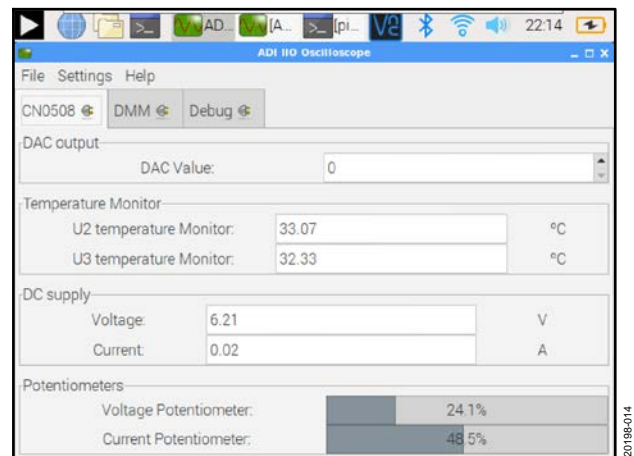

Figure 13. IIO Oscilloscope Plug-In Interface
4. On booting, the IIO oscilloscope runs automatically and shows the CN-0508 plug-in control panel as shown in Figure 13.